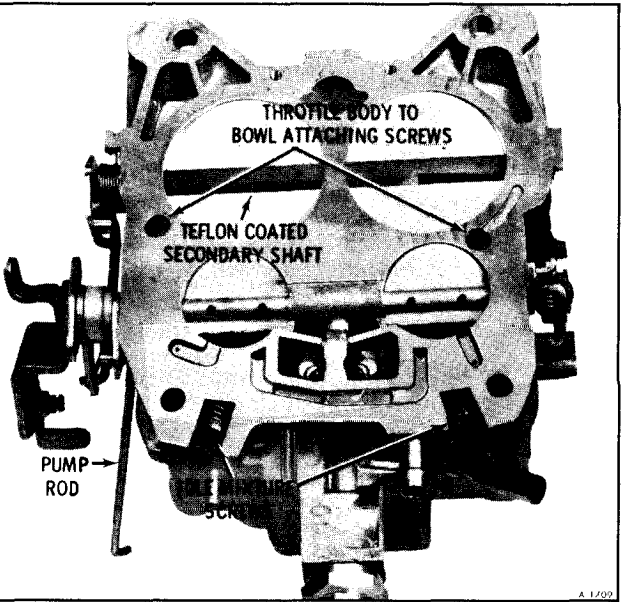

Figure 24-Throttle Body Attaching Screws
2. Remove throttle body by removing throttle body to bowl attaching screws as shown in Figure 24.
2. Install throttle body making certain throttle body is properly located over dowels on float bowl then install throttle body to bowl screws and tighten evenly and securely. See Figure 24.